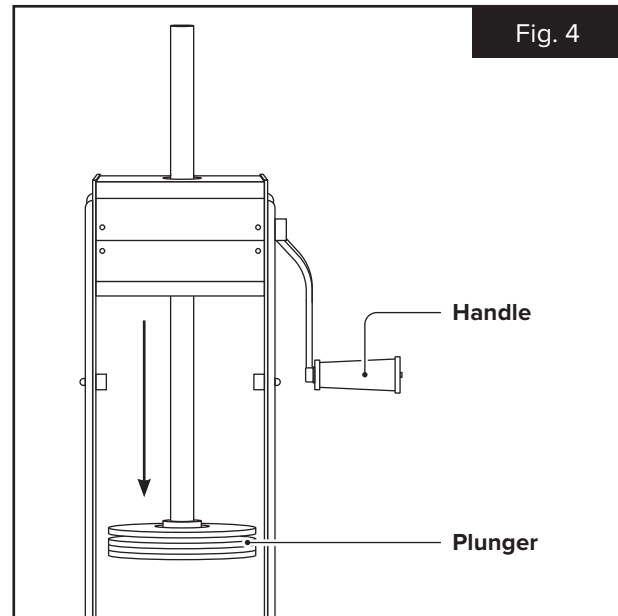

Fig. 4
1. Use the handle to lower the plunger to approximately the halfway down position BEFORE installing the motor. (Fig. 4)